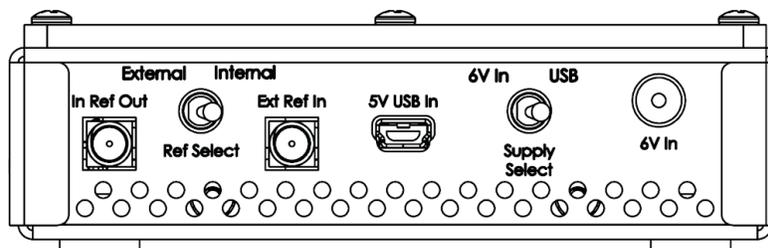
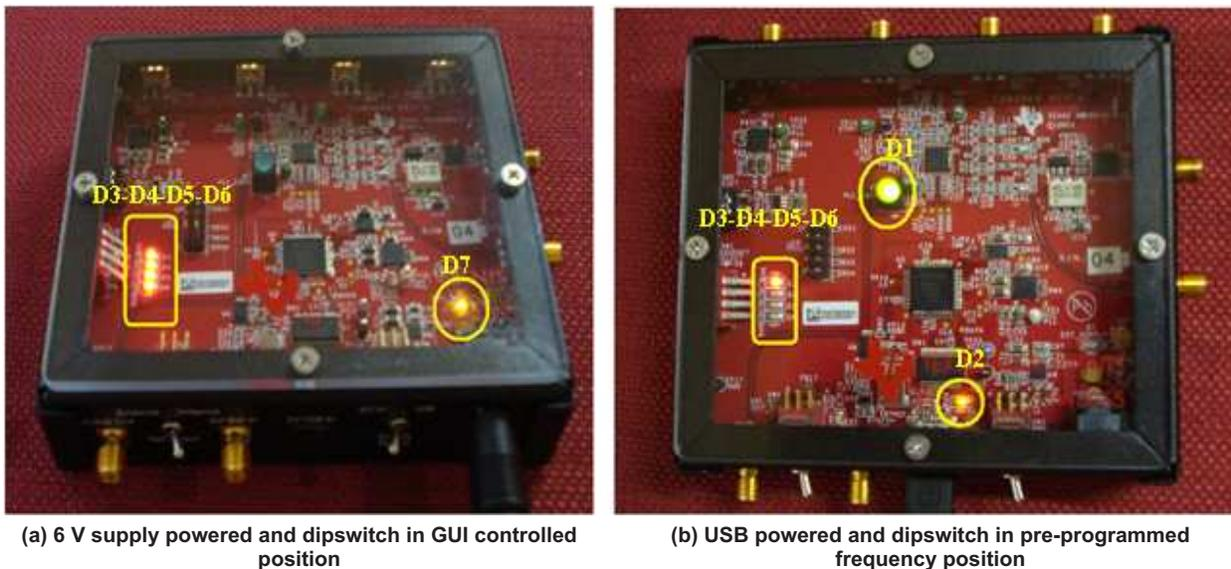

Figure 6. Supply and Reference
Figure 7. TSW3065EVM Setup
- Step 1. To power up the board using a 5 V USB, connect one end of USB (USB2.0, USB3.0 or higher versions) cable to '5V USB In' and other end to a laptop/computer. Power from the USB is indicated when the yellow LED 'D2 USB Supply' is turned ON. Select the 'Supply Select' switch to the 'USB' location as shown in Figure 6. Figure 7(b) shows the TSW3065EVM setup with USB supply.
- Step 2. To power up the TSW3065EVM using a 6-V supply, connect the power cable at '6V In' connector. Yellow LED "D7 Ext Supply" turns on once power is engaged. Select the 'Supply Select' switch to the '6V In' position. Figure 7\(a\) shows the TSW3065EVM setup.
- Step 3. Select 'Ref Select' switch to 'Internal' position as shown in Figure 6. This selects the internal onboard 10 MHz crystal oscillator as reference. To select an external reference select the 'Ref Select' switch to 'External' position. This turns on the yellow LED 'D8 Ext_Ref.' Apply 10 MHz, 13 dBm of the external reference signal at the 'Ext Ref In' connector. 'Ref Out' which is one of the buffered outputs of the reference used to lock TSW3065EVM can be used to lock other instruments or boards. Figure 7\(a\) and Figure 7\(b\) shows TSW3065EVM setup with internal reference selected.
- Step 4. To use pre-programmed frequencies, select the 'Freq Select' dip switch in one of the first four positions in Table 1 and press 'Reset' push button. This locks the TSW3065EVM to the respective frequency of dip switch position and the green LED 'D1 PLL LOCK' is turned ON. Figure 7\(b\) shows the TSW3065EVM setup in the first dip switch position of Table 1 with D1 turned ON, which indicates TSW3065EVM is locked. To use the board in GUI controlled mode, turn the dip switch to 1111 position as shown Figure 7\(a\).